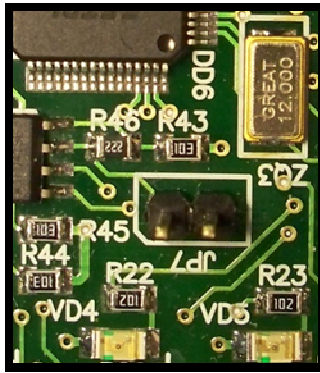

Fig 8. Jumper JP7 is absent
- jumper JP7 should be at the position as on Fig. 8.